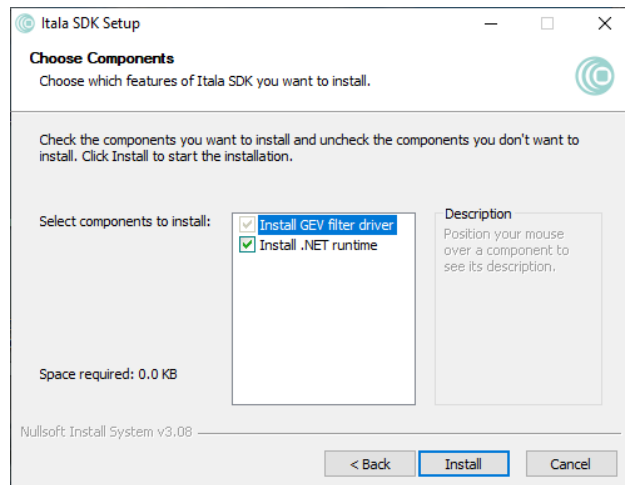

Figure 16: Components selection window.
5. Select the components which need to be installed (Fig.16). In case of installation of the filter driver only, step 6 can be skipped.